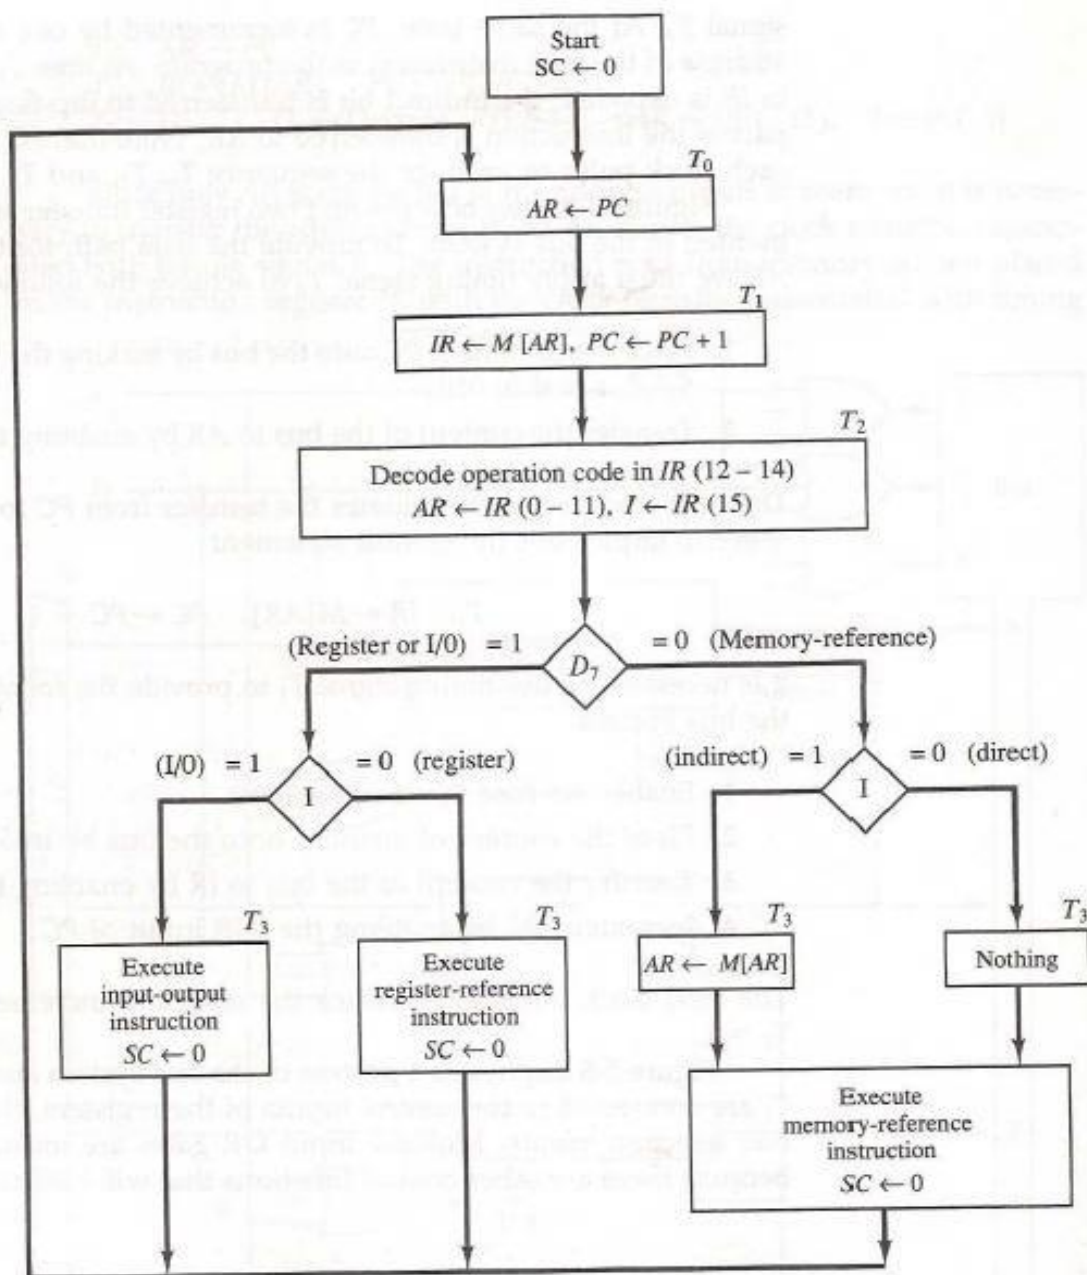

Figure 5-9 Flowchart for instruction cycle (initial configuration).
- The flowchart of fig.5-9 shows the initial configurations for the instruction cycle and also how the control determines the instruction cycle type after the decoding.